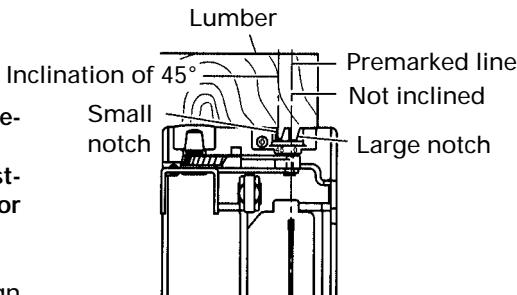
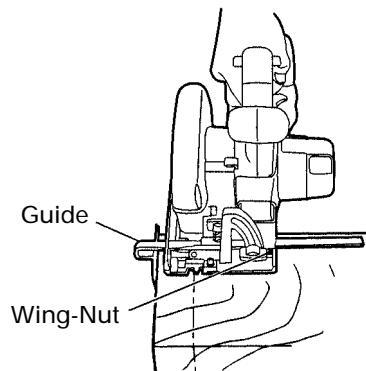
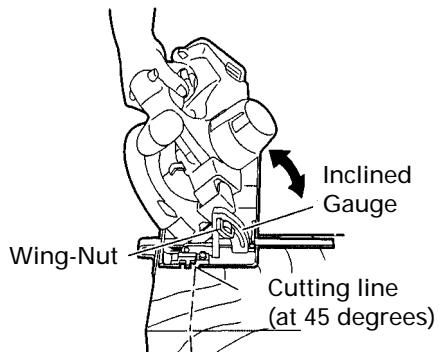

Fig. 14 <Top View>
Fig. 15 Not inclined
Fig. 16
(1) Place the base on the material, then align the premarked line and the saw blade with the guide piece front scale section at the front of the base. (Fig. 14)
(2) When the base is not inclined, use the large notch as the guide piece. (Fig. 14, Fig. 15)
If the base is inclined (45 degrees), use the small notch as the guide piece. (Fig. 14, Fig. 16)